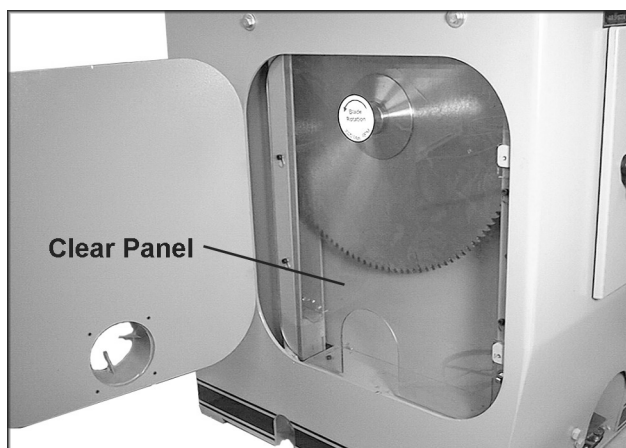

FIGURE 6
3. Remove the clear panel guarding the blade (Fig. 6) by loosening the screws and lifting up on the panel.